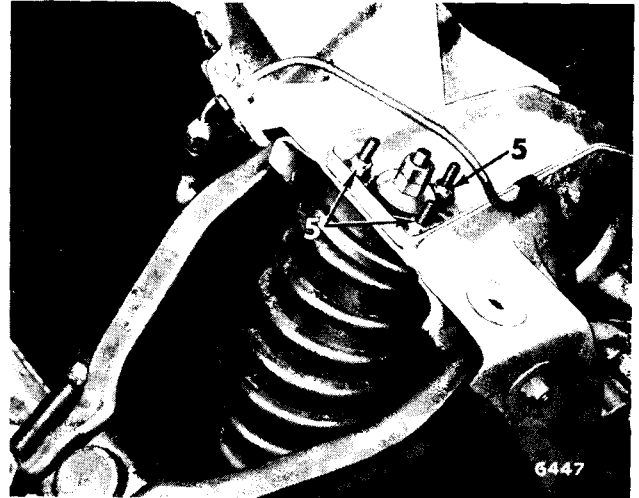

Fig. 10. Road spring attachment
1. Slacken the trunnion bolt (58) a few turns.
2. Remove the damper bolt (59).
3. Remove three nuts (5) (Fig. 10).